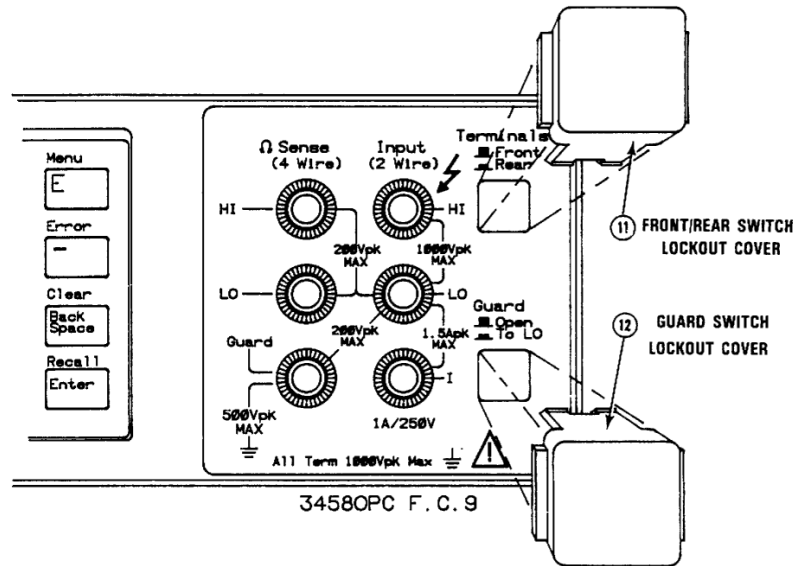

Figure C-9 Switch covers installation
- 1 Refer to **Figure C-9**. Turn the instrument so its front faces you.
- 3 Locate the little square covers that came in the switch lockout kit. as shown in **Figure C-9**.